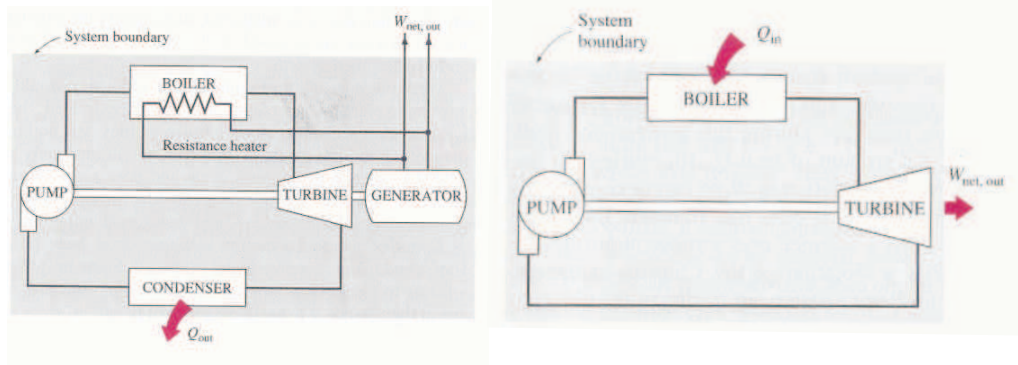

Figure 13: *Perpetual - motion machines for exercise 7.13*
- a: Consider the power plant given at the left side of figure 13. It is proposed to heat steam by resistance heaters placed inside the boiler, instead of by the energy supplied from fossil fuel or nuclear fuels. Part of the electricity generated by the plant is to be used to power the resistors as well as the pump. The rest of the electric energy is to be supplied to the electric network as the net work output. The inventor claims that once the system is started, this power plant will produce electricity indefinitely without requiring any energy input from the outside and it will solve the world's energy problem.
- b: Consider the power plant given at the right side of figure 13. It is proposed to heat steam in the boiler by an external source. The heated steam is expanded in the turbine to generate electricity. The steam leaving the turbine is sent to the pump immediately. It is not first condensed in a condenser (which is done in the present steam turbine cycles) as that device discards a lot of the heat supplied in the boiler to the environment. This way all the heat transferred to the steam in the boiler will be converted to work, and thus the power plant will have a theoretical efficiency of 100%. Of course some heat losses and friction between moving components will occur, but still the inventor expects that the machine has an efficiency no less than 80% (as opposed to 40% in actual power plants) for a well designed system.